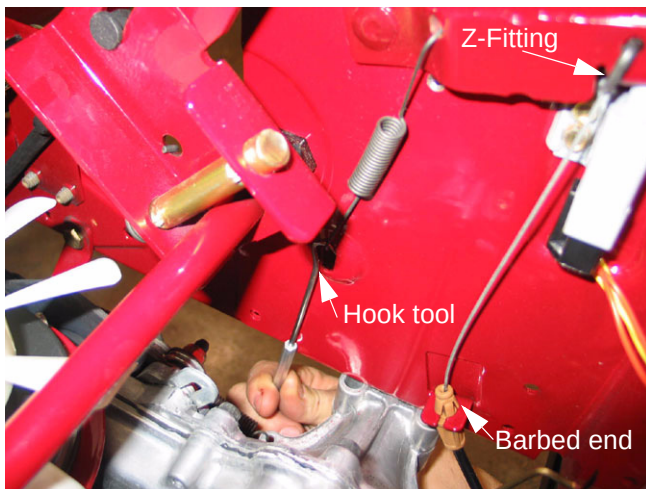

Figure 4.3
- 4.3. The PTO cable can be removed from its bracket by squeezing the barbs to release it. Once released, there will be enough slack in the cable to unhook the Z-fitting from the PTO lever. See Figure 4.3.